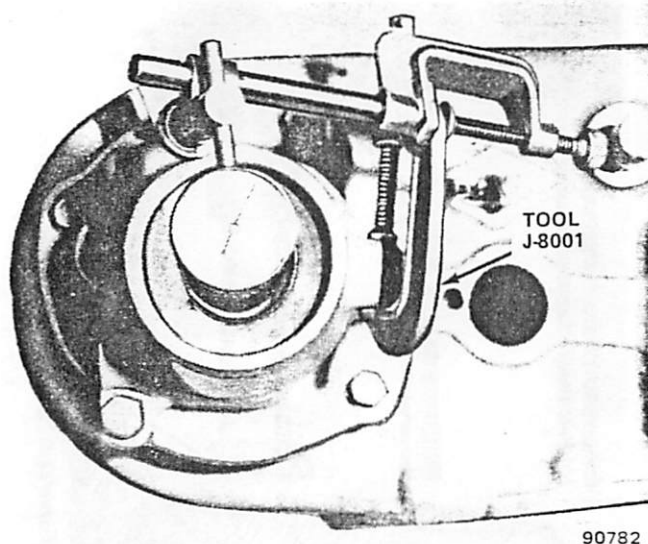

Fig. 2D-83 Checking Rear Output Shaft End Play
(c) If end play is not correct, remove or add shims between speedometer drive gear and output shaft rear bearing (fig. 2D-76).
(26) Install front output shaft rear bearing race (fig. 2D-79).
(27) Install front output shaft end, play shims and cover plate (fig. 2D-79). Tighten cover plate bolts to 35 foot-pounds (47 N•m) torque.
(28) Install front output shaft front bearing race using Tools J-8092 and J-29181 (fig. 2D-84).
(29) Install front output shaft yoke oil seal using Tool J-25160.